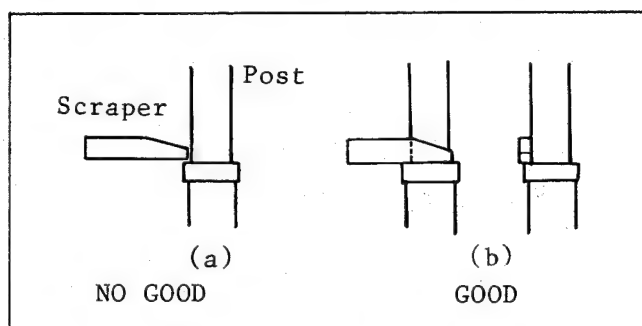

Fig. M29 Adj. of Tape Guide Post Height-(3)
4. Set the fixture to zero "0" and slowly raise the post until it just touches the scraper. When the scraper touches the post, it should fit as shown below in Fig. M29 (b). For adjustment of P1 and P4, use the nut driver. (The Post cap on P4 can be removed by turning counterclockwise.) For adjustment of P2 and P3, use the post adjustment screwdriver.